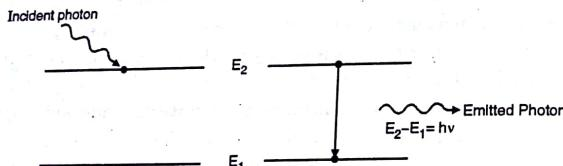

Fig. 4.2.3 : Stimulated emission
- This phenomenon is called **forced emission or stimulated emission** as shown in Fig. 4.2.3. The process may be represented as